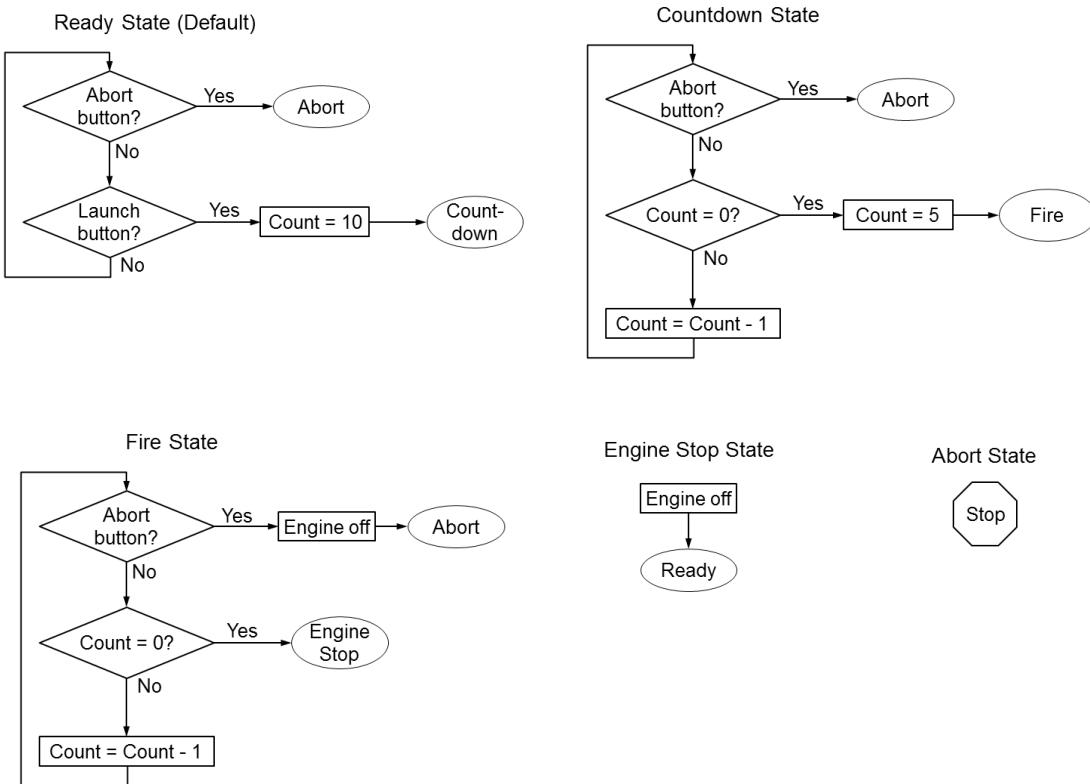

FIGURE E.2 Flow diagrams for each of the five states in our rocket launching state machine.
As an example of how to read these diagrams, consider the Ready State in Fig. E.2. When the code that makes up the state starts executing, the first thing that happens is a check to see if the Abort button has been pressed. If it has, then we immediately transition to the Abort state. If
34. Refer back to Fig. E.2. We need to convert the flow diagram for the Ready state into actual code. The first thing that happens is a True/False decision based on the Abort button. So draw a case structure *inside the Ready case*, and wire the Abort terminal to its selector. If you look at the flow diagram, you will see that everything that happens in this state is “under” this case, so it should pretty much fill the Ready case.